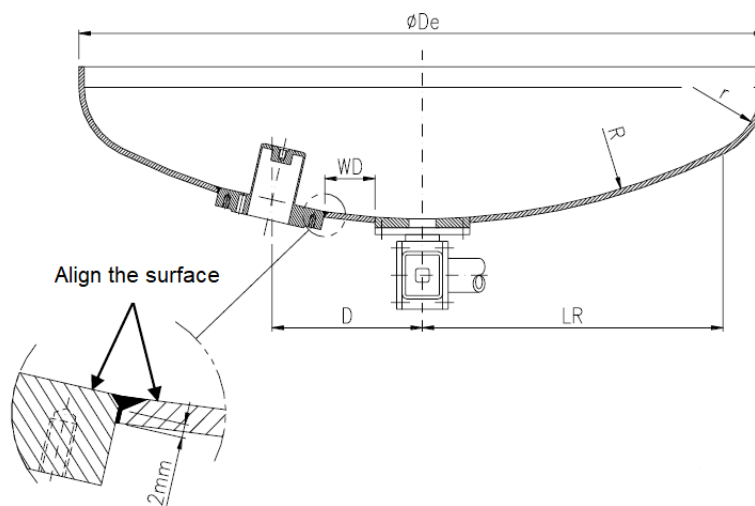

Fig. 3
The inner edge of the vessel must be round in order to make a 45° angle sloping inwards (creating a weld groove). On the outer edge of the hole must be left a straight part of approx. 2 mm as shown in figure 3
- place the shroud into the vessel hole checking that the inner surface of the vessel is flush with the outer edges of the shroud as shown in figure 3.